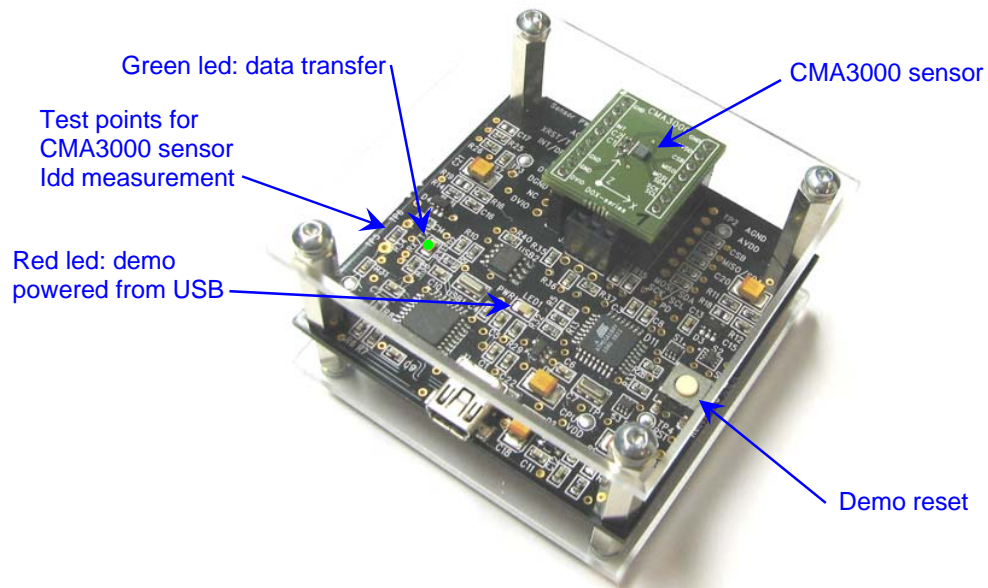
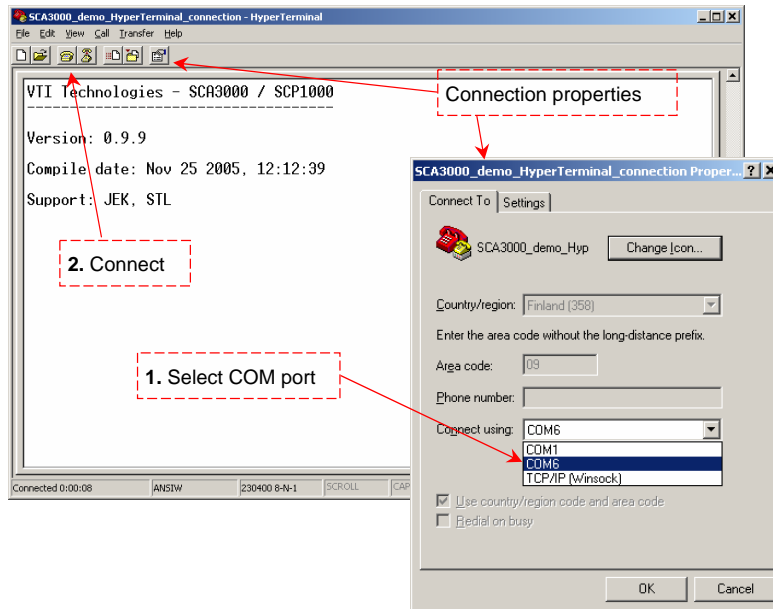

Figure 1. CMA3000 demo USB interface board and CMA3000 PWB.
Figure 12. Windows HyperTerminal with CMA3000 demo info text.
- CMA3000 sensor soldered on chip carrier PWB (see Figure 1 on next page)
- USB interface card (see Figure 1 on next page)
The CMA3000 DEMO KIT USB interface board (black PWB) and CMA3000 PWB (green PWB) are shown in Figure 1. The USB interface card converts the USB interface to SPI or I²C interface. CMA3000 sensor is soldered on PWB which is connected to interface board.
MCU can be reset by exiting from the GUI and then pressing the reset button (Figure 1) on USB interface board.
5. Press demo reset button (see Figure 1). CMA3000 DEMO KIT sends an info text to HyperTerminal (see Figure 12). If the HyperTerminal software is unable to connect the CMA3000 DEMO KIT or the info text does not appear,
until info text appears to HyperTerminal screen (see Figure 12).
- see if the info text appears on the screen (see Figure 12)→ if the info text is transmitted, the communication between the demo kit and PC is ok